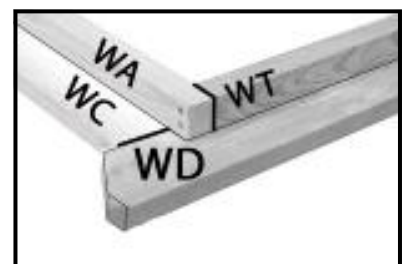

Fig B10
15. Turn frame over and repeat steps 9 to 14 on the other side (fig B10&B11).